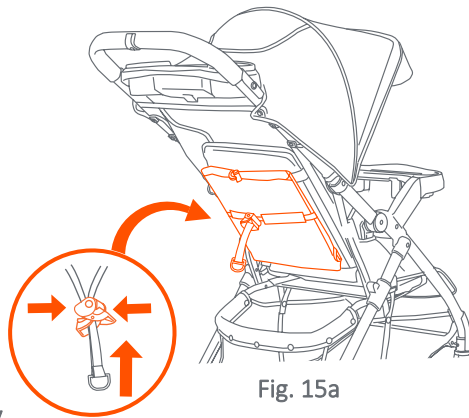

Fig. 15a
**NOTE:** Before folding the stroller, the storage pouch should be closed and compressed. Refer to step 12d. (Fig. 15a).